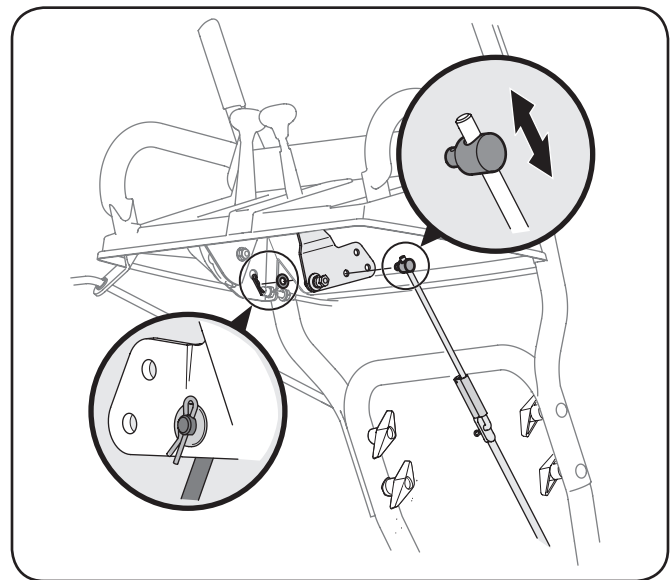

Figure 6-4
If the full range of speeds (forward and reverse) cannot be achieved, refer to the figure to Figure 6-4 and adjust the shift rod as follows:
1. Looking underneath the handle panel, note which of the three holes in the shift lever the ferrule is inserted into. Also note the direction of insertion. Then remove the internal cotter pin and flat washer from the ferrule and withdraw the ferrule from the shift lever. See Figure 6-4.
2. Place shift lever in sixth (6) position or fastest forward speed.
4. As necessary, rotate the ferrule up or down the shift rod until the ferrule lines up with the hole from which it was earlier removed. See Figure 6-4.